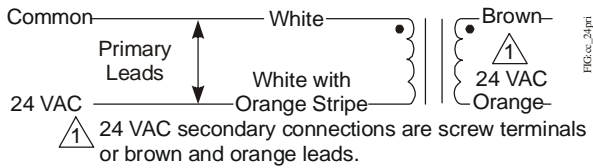
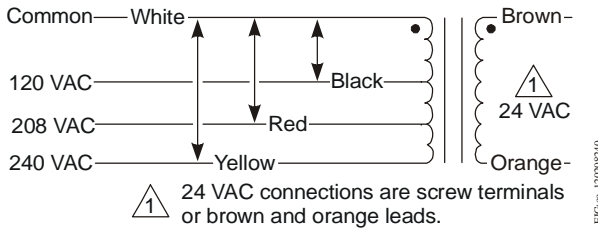
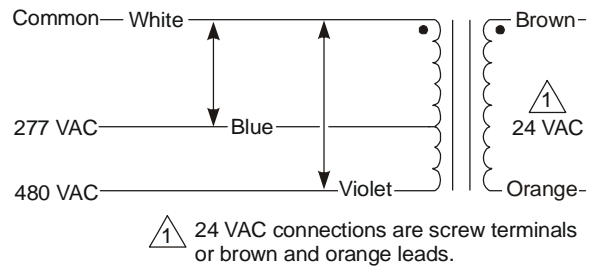

Figure 1: Wire Color Codes and Voltage for 24 VAC (Primary) Y6X Series Transformers
Figure 2: Wire Color Codes and Voltages for 120/208/240 Series Transformers
Figure 3: Wire Color Codes and Voltages for 277/480 VAC Y6X Series Transformers
1. With the line-voltage supply power disconnected, wire the appropriate primary leads from the transformer to the line voltage power supply terminals or leads. See Figure 1, Figure 2, and Figure 3.